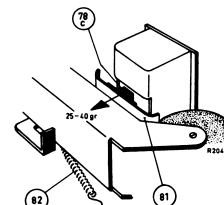

Fig 27
- The force with which the pressure felt presses against the recording/playback head should be 25-40 gr., see fig. 27. This can be adjusted with pressure spring 82 by shortening or lengthening same.